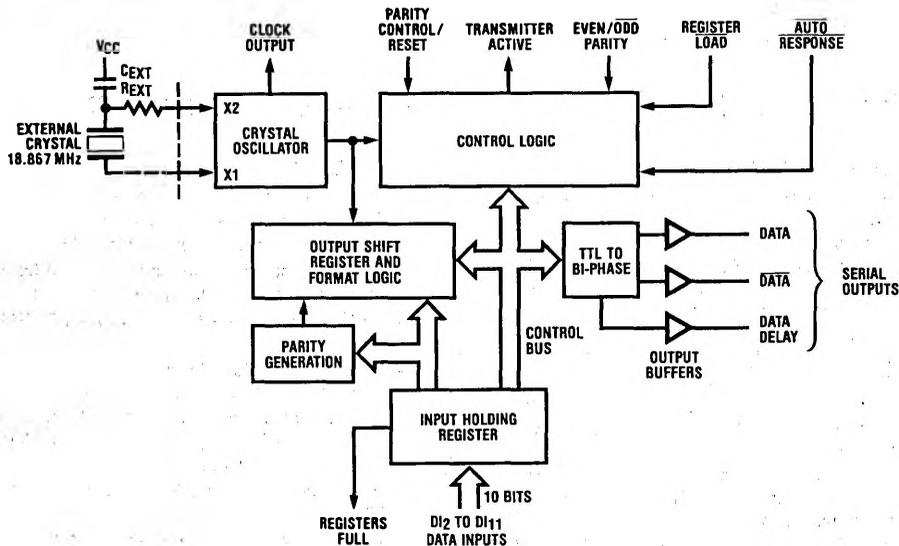

FIGURE 2. DP8340 Serial Bi-Phase Transmitter/Encoder Block Diagram
Figure 2 is a block diagram of the DP8340 biphas Transmitter/Encoder. The transmitter/encoder contains a crystal oscillator whose input is a crystal with a frequency eight (8) times the data rate. A Clock Output is provided to drive the DP8341 receiver/decoder Clock Input and other system components at the oscillator frequency. Additionally, the oscillator drives the control logic and output shift register/format logic blocks.